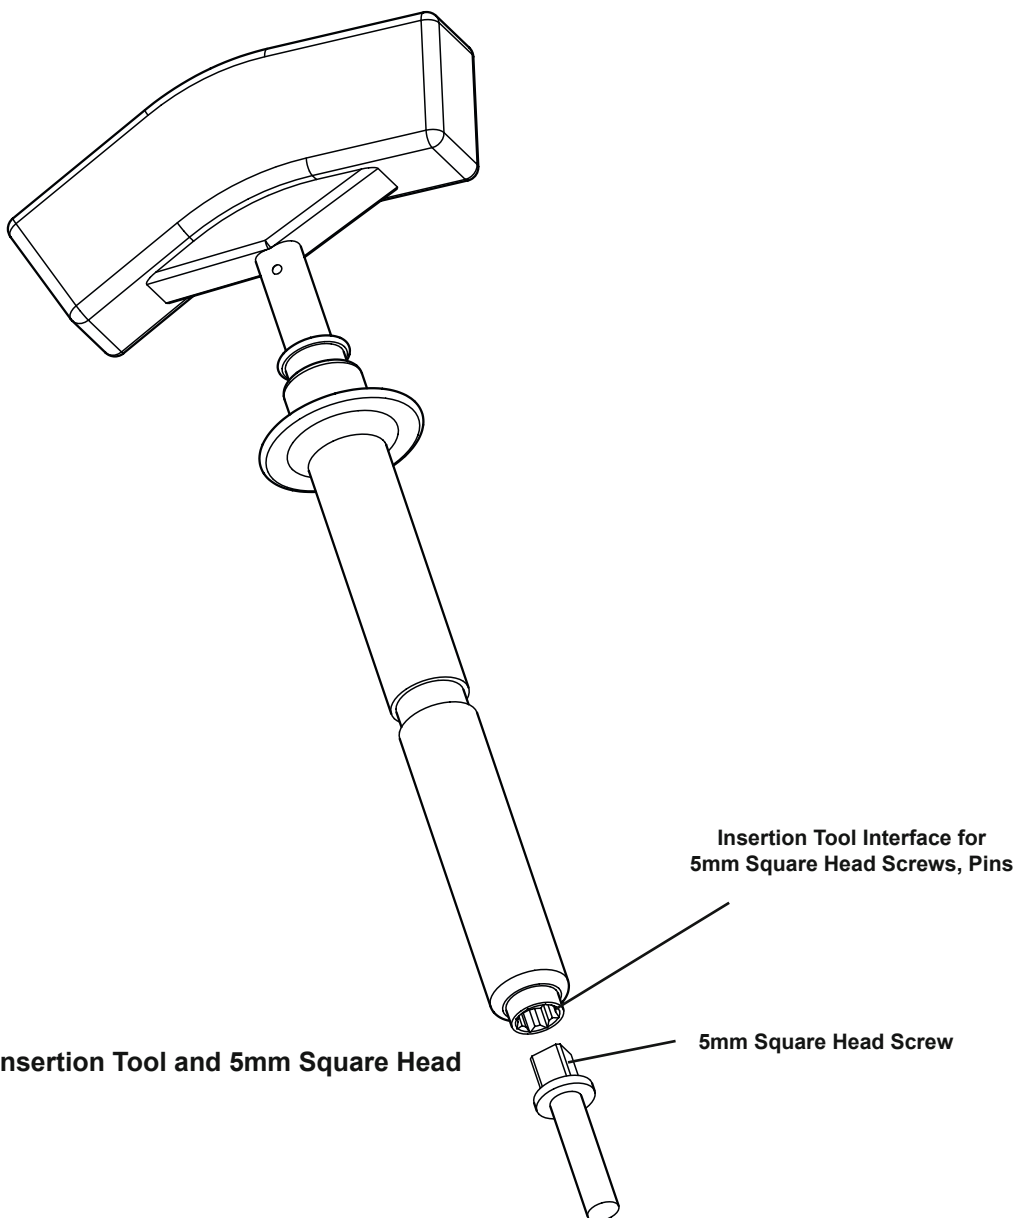

Figure 1: Insertion Tool and 5mm Square Head Screw
- See figure 1.
- After proper alignment, mount the Pin to the Insertion Tool Interface. See figure 1.